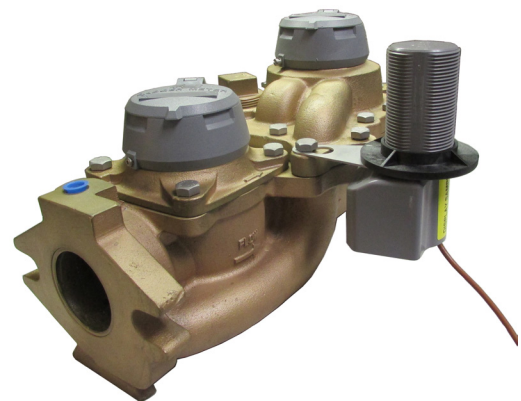

Figure 40: Endpoint connected to meter with bracket
6. Position the bracket so the endpoint is as far from the meter as possible to provide adequate space for the endpoint signal to propagate (Figure 40).